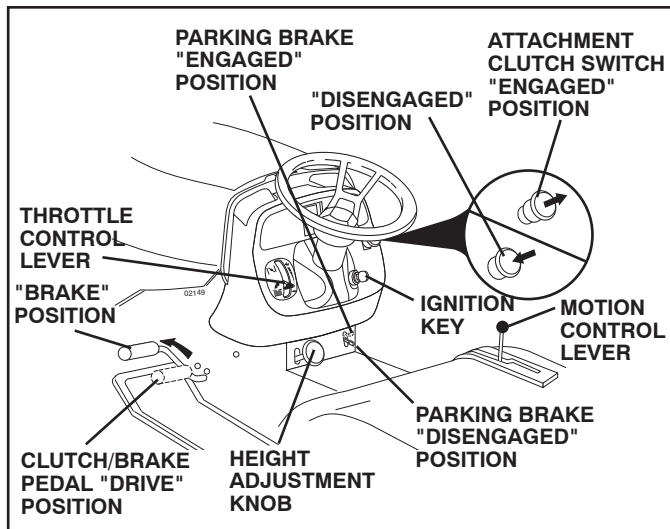

Fig. 14
TO SET PARKING BRAKE (See Fig. 14)
STOPPING (See Fig. 14)
TO USE THROTTLE CONTROL (D) (See Fig. 14)
TO MOVE FORWARD AND BACKWARD (See Fig. 14)
TO ADJUST MOWER CUTTING HEIGHT (See Fig. 14)